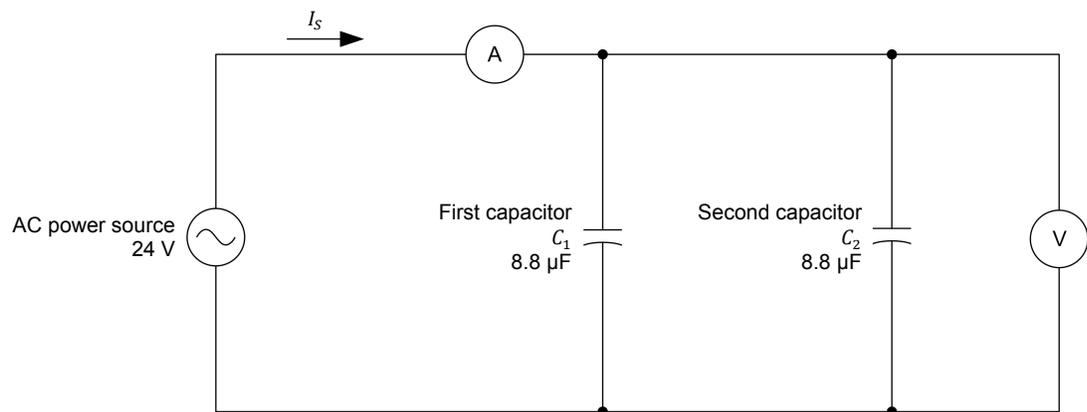

Figure 25. AC power source connected to two parallel capacitors.
40. Connect the circuit shown in Figure 25. Use both  $8.8 \mu\text{F}$  capacitors to implement the parallel capacitors.